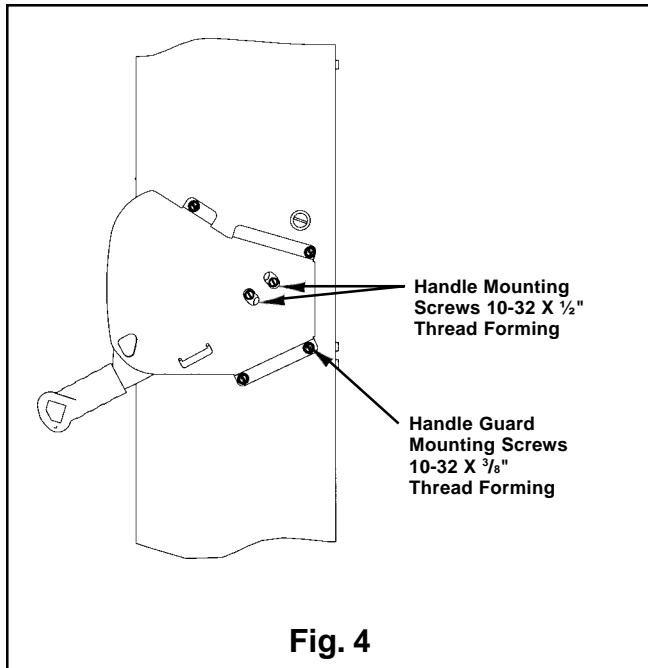

Fig. 4
5. Remove and retain Handle Guard Mounting Screws, Handle Guard, Handle Mounting Screws and Handle, see **Figures 4 and 5**.
10. Align Handle hole pattern with tabs on Interlock Plate Assembly and secure with 10-32 x  $\frac{1}{2}$ " thread forming screws removed above. See **Figures 4 and 5**. Torque Handle Mounting Screws to 30 lb-ins.
11. Align Handle Guard mounting holes with enclosure and secure with 10-32 x  $\frac{3}{8}$ " thread forming screws removed above. For Type 4X enclosures, secure with 10-32 x  $\frac{1}{2}$ " machine screws and sealing washers. See **Figures 4 and 5**. Torque Handle Guard Mounting Screws to 30 lb-ins.